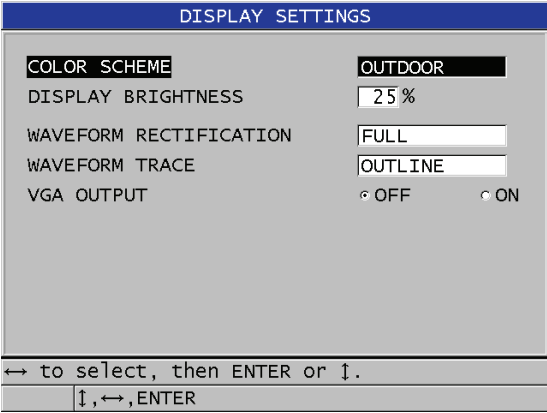

Figure 4-3 The DISPLAY SETTINGS screen
2. In the **DISPLAY SETTINGS** screen (see Figure 4-3 on page 46), select the desired parameter and value for the following parameters: